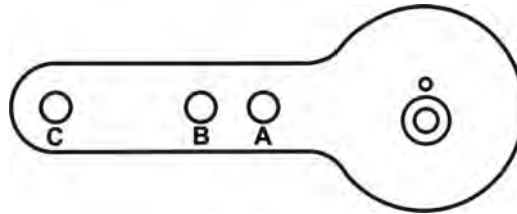

Figure 24 Lever for Model 87/88 Multispring Actuator
3. Select mounting hole A, B, C or D for the stroke of the valve. For example, hole B is shown in Figure 24 on page 56 for a size 10 actuator with 1.0" stroke. Unless otherwise specified, the SVI FF mounting assumes that the actuator is in the normal upright position. The mounting hole in the slotted opening of the mounting bracket must be left when facing the actuator, with the actuator in the upright position.
6. Attach the right hand threaded rod end to the SVI FF lever using a 1/4 - 20 x 1" cap screw and nut as shown. The lever hole position to be used depends upon the specific valve stroke. Refer to Figure 24 on page 56 and the Reciprocating Valve Linkage Selection, Table 7 on page 57.